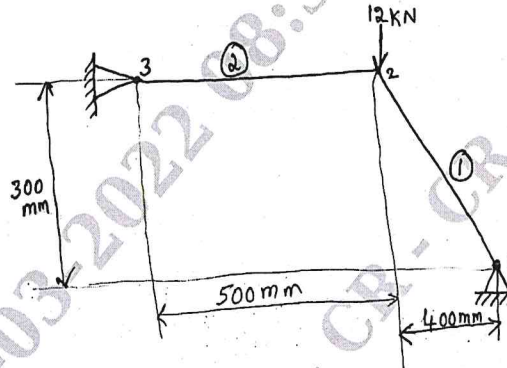

Fig Q6(b)
b. For the two bar truss shown in Fig Q6(b). Determine the nodal displacement and stresses in each element. Take  $E = 2 \times 10^5 \text{ N/mm}^2$ ;  $A = 200 \text{ mm}^2$